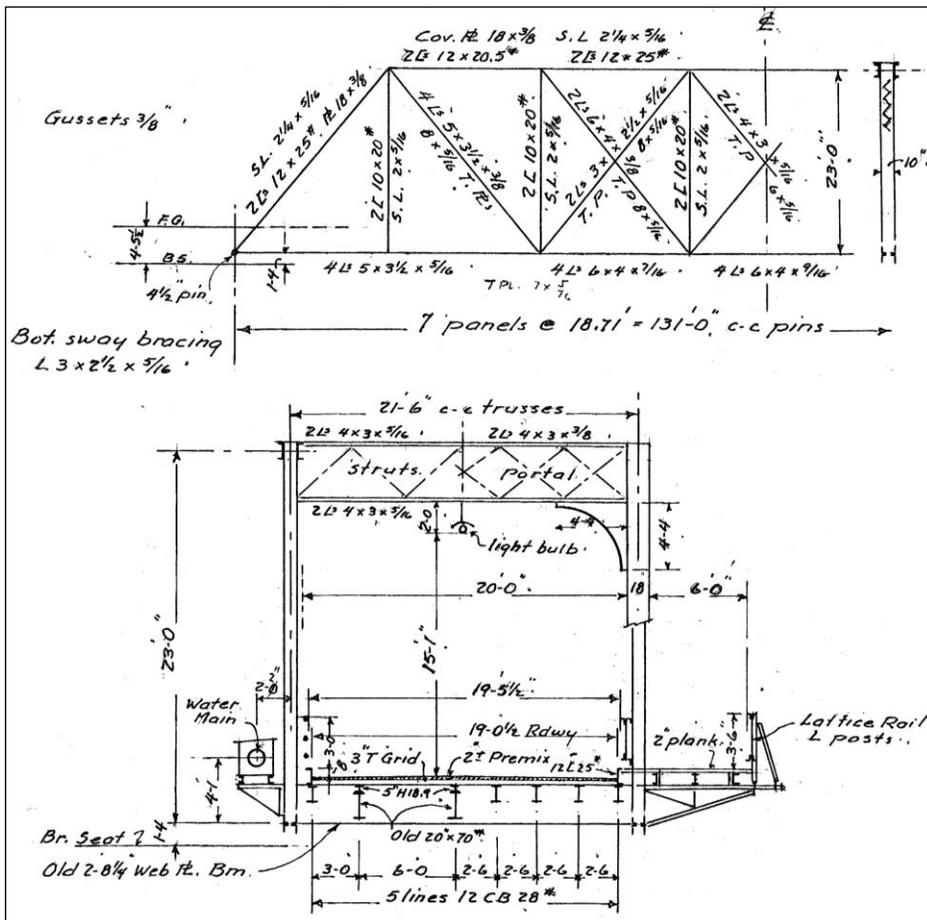

FIGURE 2: Claremont 091/118, Plains Road over Sugar River (1906). Section & elevation sketch (NHHD Bridge Inventory Card).
- FIGURE 2: Claremont 091/118, Plains Road over Sugar River, 1906, drawing.